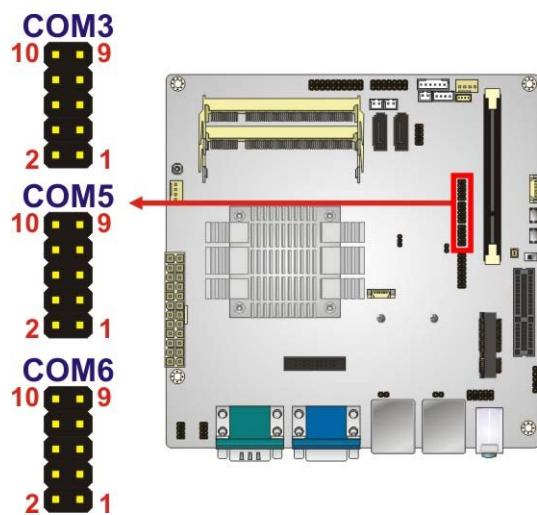

Figure 3-22: RS-232 Serial Port Connector Locations
**CN Location:** See Figure 3-22